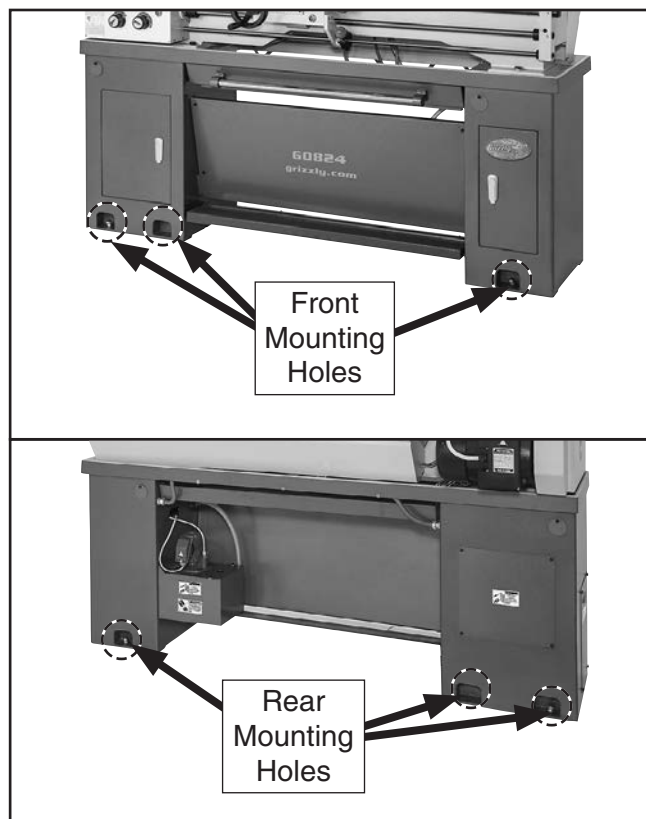

Figure 19. Locations for mounting lathe.
1. Use holes in bottom of cabinets (see **Figure 19**) as guides for drilling holes in floor and mount stand.